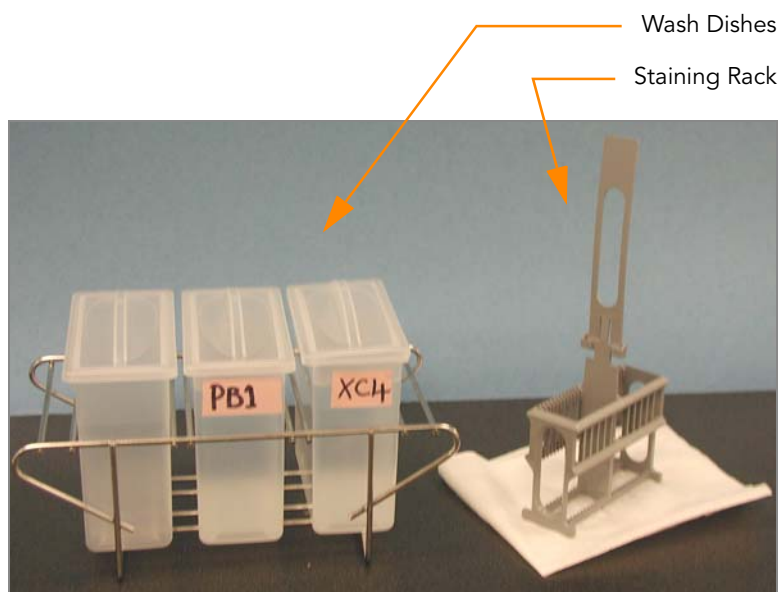

Figure 63 PB1 and XC4 Wash Dishes with Staining Rack
2. Set up two top-loading wash dishes, labeled as shown (Figure 63).